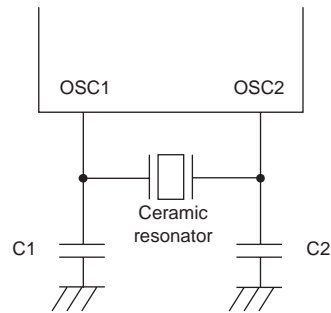

Fig. 3 Ceramic Resonator Oscillation Circuit
|                                | IDDOP(4)    | VDD  | Fig.3 400kHz  |                           | 0.5                        | 2                          | mA                       |
|                                | IDDOP(5)    | VDD  | Fig.3 800kHz  |                           | 1.0                        | 2.5                        | mA                       |
| Frequency                      | fCFOSC (*5) | OSC1, OSC2OSC1, OSC2OSC1, OSC2OSC1, OSC2 | Fig.3 fo=400kHzFig.3 fo=800kHzFig.3 fo=1MHzFig.3 fo=4MHz1 / 4 predivider                                  | 3847689603840 | 40080010004000 | 41683210404160 | kHzkHzkHzkHz |
- (\*1) When oscillated internally under the oscillating conditions in Fig.3, up to the oscillation amplitude generated is allowable.